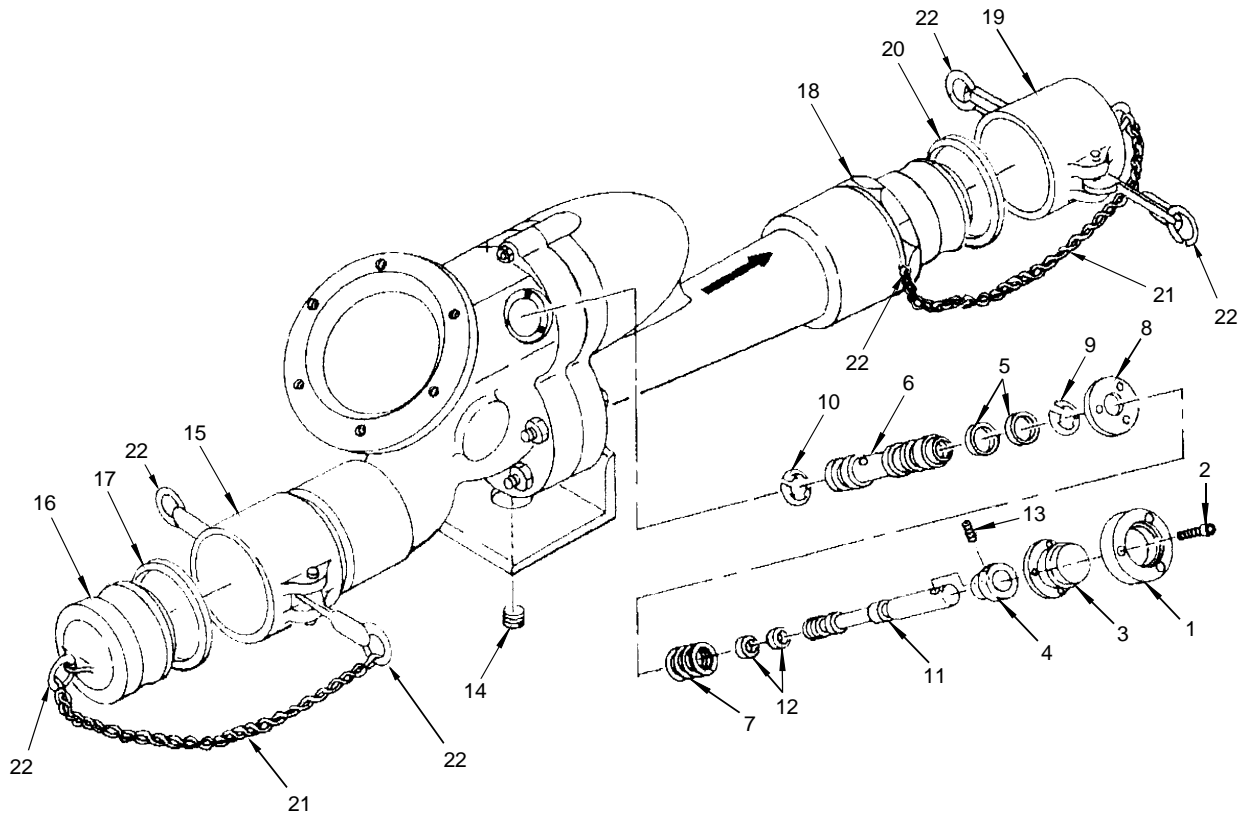

Figure 2. Pressure Control Cycling Valve
7. Align notch in cover (2) with hole in flanged area of pressure control body and place cover (2) on pressure control.
8. Install nuts (3) on studs (4) and tighten nuts in crossing pattern to 20 foot-pounds (2.77 m-kg) torque.
9. Insert plug (1) in cover.
**STOP CYCLING VALVE ASSEMBLY REMOVAL AND DISASSEMBLY** (Refer to figure 2.)
(Refer to figure 2.)
10. Place button (4) on cycling valve stem (11) and align hole in button with hole in cycling valve stem (11).
11. Install setscrew (13) in button (4) and cycling valve stem (11).
12. Hold valve body (6), and apply pressure on spring (7) with washer (8) until valve body (6) is on cycling valve stem (11).
13. Install retaining ring (10) on cycling valve stem (11) to hold valve body (6) in place.
14. Place assembled cycling valve in the pressure control and adjust cycling valve assembly to align holes in washer (8) with mounting holes in pressure control.
15. Install cover (3) over cycling valve assembly, aligning mounting holes with mounting holes in pressure control body.
16. Place ring (1) over cycling valve assembly and align ring holes with mounting holes in pressure control body.
17. Install capscrews (2) through ring (1) and tighten securely.
**FILL CYCLING VALVE ASSEMBLY REMOVAL AND DISASSEMBLY** (Refer to figure 2.)**INITIAL SET-UP:****Tools:**
1. Hold ring (1) in place and remove capscrews (2).
2. Remove ring and cover (3) from pressure control.
3. Grasp button (4) and twist and pull until cycling valve assembly is removed from pressure control.
5. Remove O-rings (5) from valve body (6). Discard O-rings.
6. Apply pressure on spring (7) with washer (8) and remove retaining ring (9) from valve body (6).
7. Remove retaining ring (10) from cycling valve stem (11) and remove valve body (6) from cycling valve stem (11).
8. Remove washer (8) and spring (7) from cycling valve stem (11).
9. Remove O-rings (12) from cycling valve stem (11). Discard O-rings.
10. Remove setscrew (13) from button (4), and remove button (4) from cycling valve assembly.
**FILL CYCLING VALVE ASSEMBLY CLEANING, REPAIR AND INSTALLATION** (Refer to figure 2.)**INITIAL SET-UP:****Tools:**